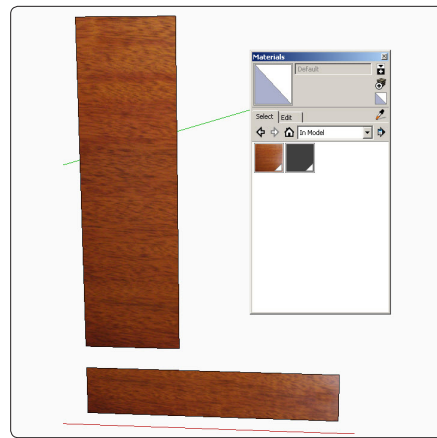

Figure 18. Create rectangles for the largest areas of horizontal and vertical wood grain.
Step 2 Create two rectangles—one for the largest face of vertical grain and one for the largest face of horizontal grain (Figure 18). Import the mahogany texture into each of the rectangles.